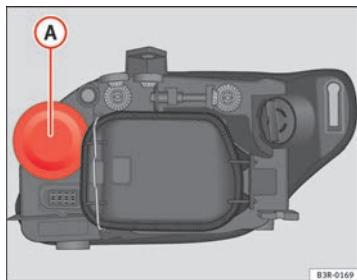

Fig. 196 Main beam headlights
- Pull up on the rubber cover **A** ⇒ fig. 196 to remove it.